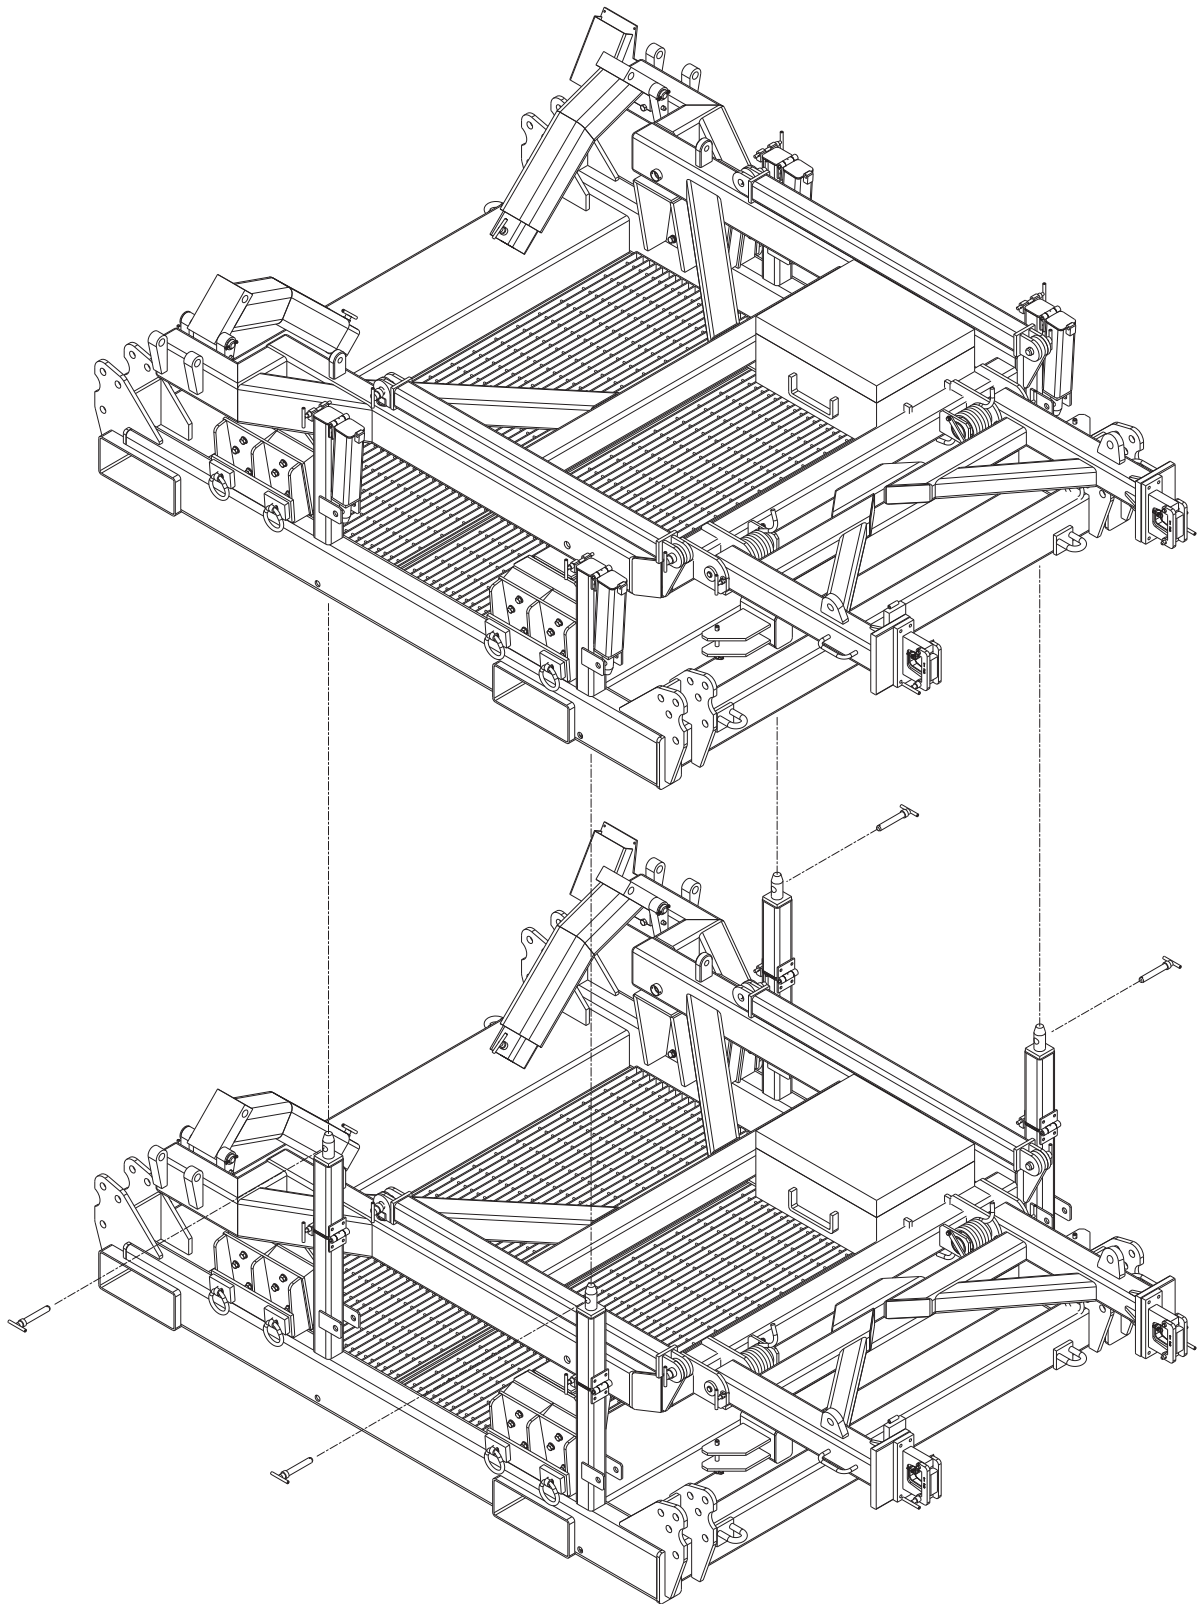

Figure 5.2-3
5.2.2 Stacking (Illustration Figure 5.2-3)